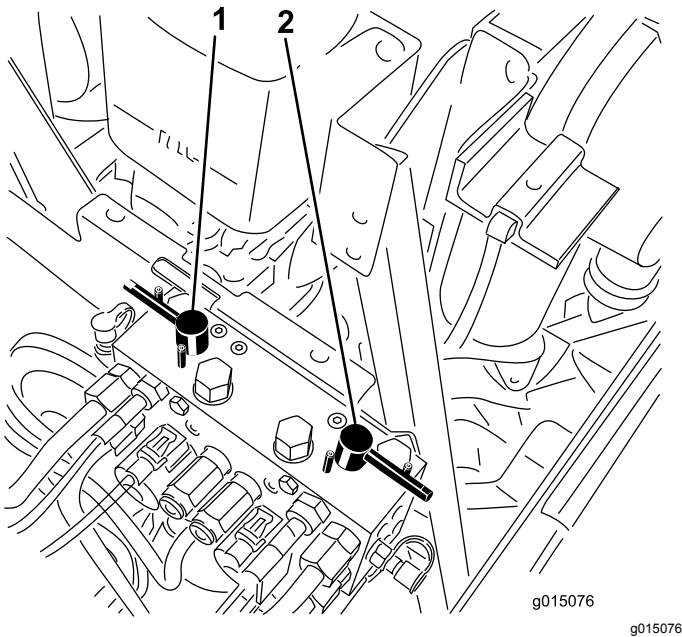

Figure 109
4. Select either front, rear, or both backlap levers to determine which units to backlap (Figure 109).